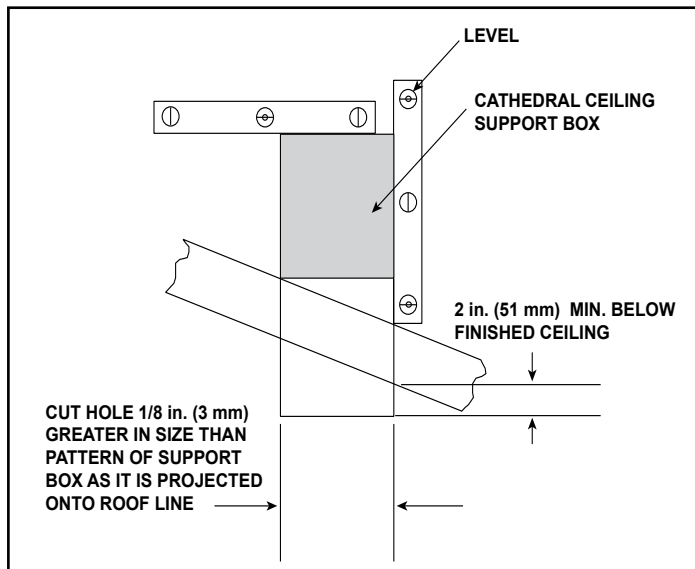

Figure 7.9
- Lower the support box through the hole in the roof until its bottom is at least 2 in. (51 mm) below the ceiling (Figure 7.9).